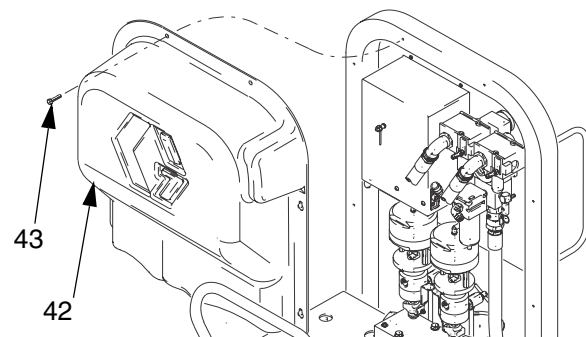

FIG. 3
2. Remove air manifold cover (42). FIG. 3.
2. Remove air manifold cover (42). FIG. 3, page 16.